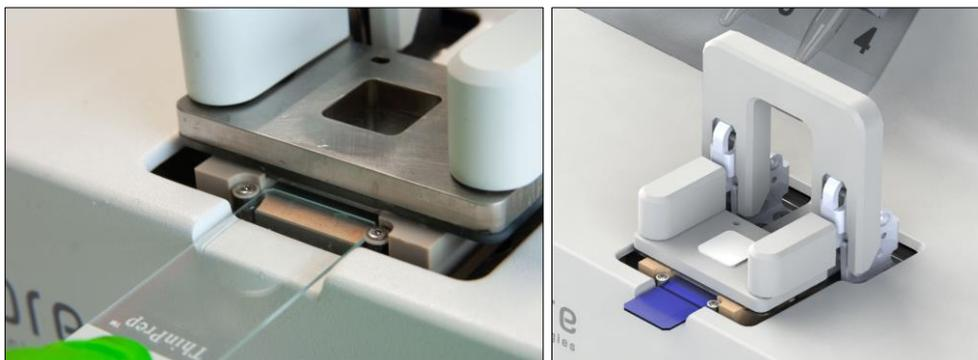

Figure 39) Slide insertion into the stainer (left). Stainer cover on stainer's see-through window (right).
Once a protocol has been loaded, all the corresponding Required actions have been performed and a new Staining chip loaded on the stainer, the slide can be inserted in the stainer (Figure 39):
4. If performing a protocol using fluorescent reagents, place the stainer cover on the stainer's see-through window (Figure 39).